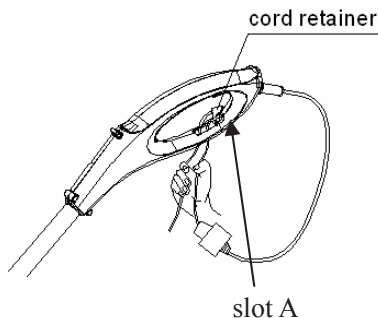

Fig. 14
3. Place the loop into the slot (A) under the rear handle and lock into place on the cord retainer as shown in Fig. 14.